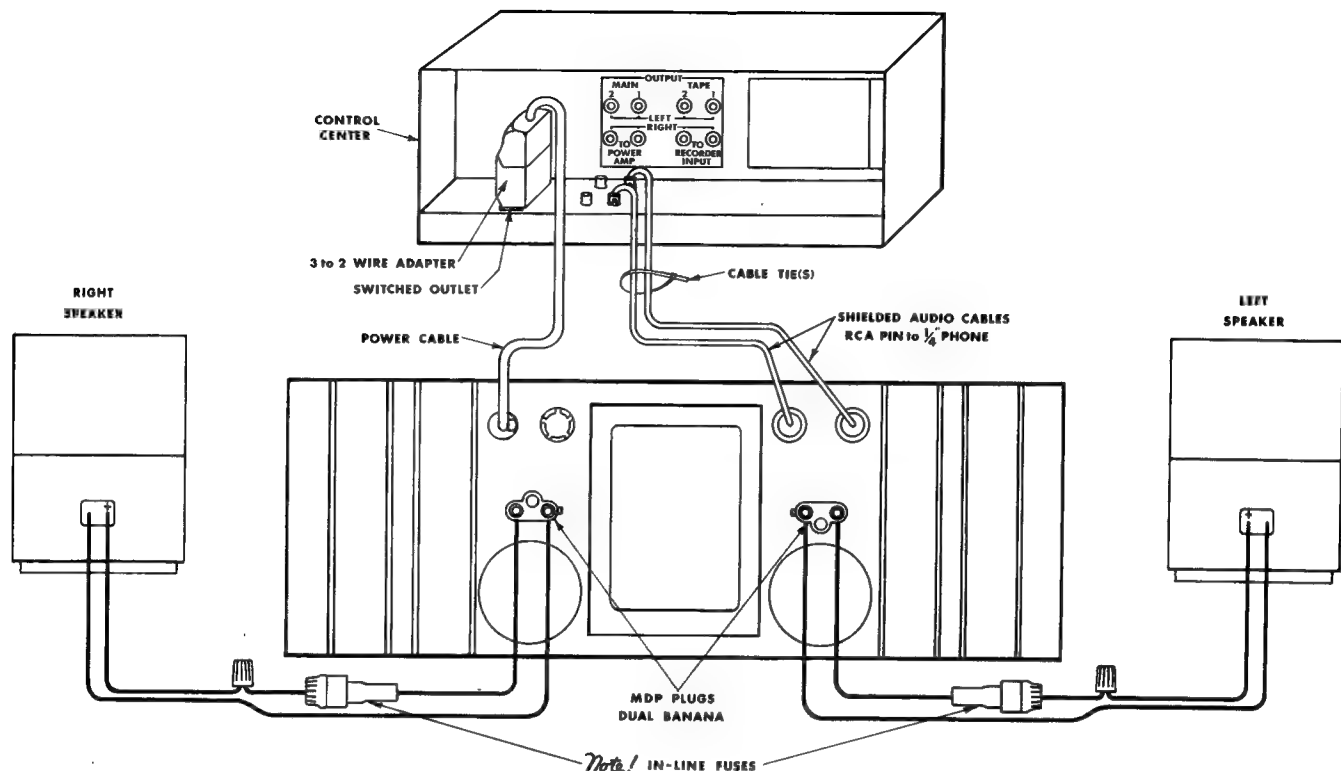

FIG. 2-2
1. Remove output covers, exposing dual binding-posts. Two-conductor speaker cables must connect to the OUTPUTS using terminal lugs, tinned ends, or the special "banana" plugs supplied with the DC-300A. Connect the in-line fuses as recommended in the Accessory Bag and Fig. 2-2 Overleaf. (Not needed with CROWN speakers.)
On each heat sink (see Fig. 2-2) is mounted a thermal switch which protects the amplifier against insufficient ventilation. If either heat sink becomes too hot, the AC line power will be interrupted until the temperature falls to a safe level, whereupon power will be automatically restored. When such an event occurs, the external symptoms are: no indication of AC power (by the pilot), and a warm front panel.